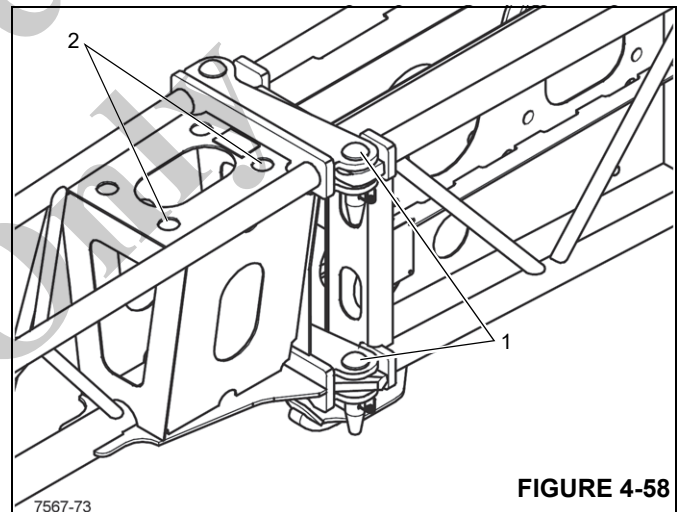

FIGURE 4-58
2. Remove the retaining clips from the pins (1) and remove the pins from the connecting lugs (Figure 4-58).